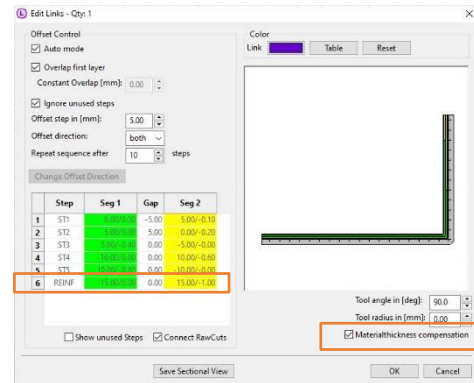

Figure 181
20. Activate **[Material thickness compensation]** (Figure 181).
Note: Currently our two upper mastercuts are also used for our reinforcement “REINF” step 6 (Figure 181).